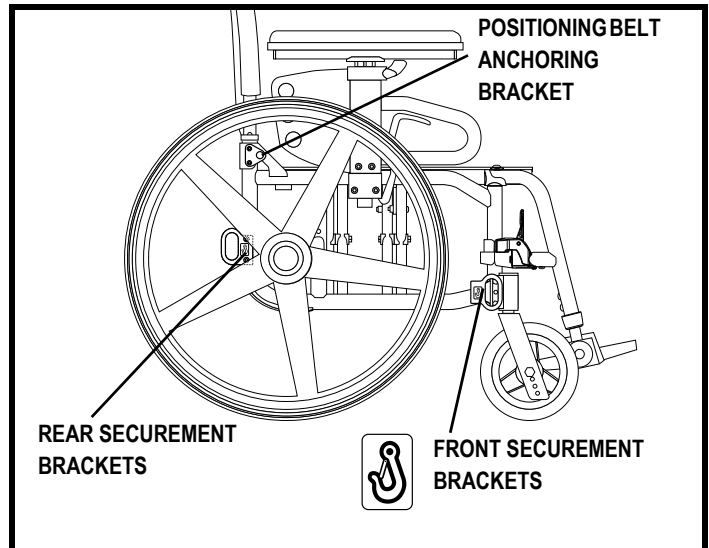

Figure 10. Securement Points
- Attach the four tie-down straps only to designated, labeled transit securement points indicated by anchor symbols on the wheelchair. See figures 10 and 12. Tighten the straps to sufficiently remove all slack.
- Position the anchor points for the rear tie-down straps directly behind the rear securement points on the wheelchair. The front tie-down straps should be anchored to floor points that are spaced wider than the wheelchair to provide increased stability. See figure 10.